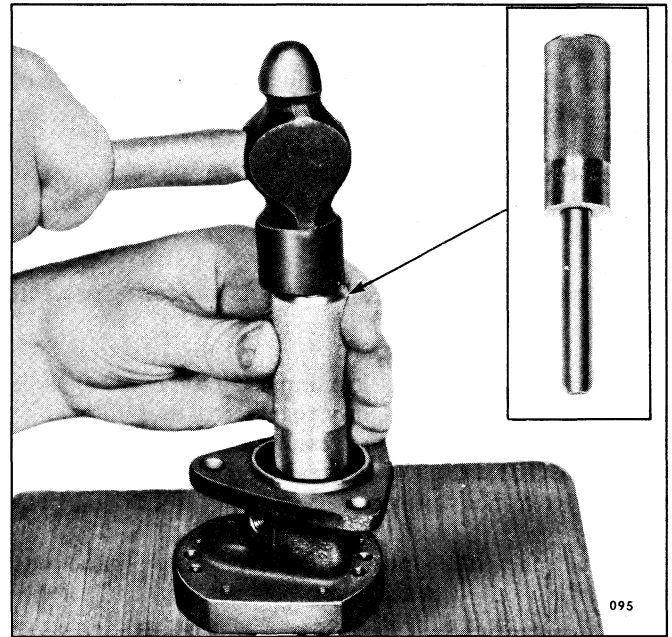

Fig. 10 - Installing Inner Oil Seal in Fuel Oil Pump Body with Tool J 1508-8
- b. With the pump body supported on wood blocks (Fig. 10), insert the pilot of the installer handle in the pump body so the seal starts straight into the pump flange. Then, drive the seal in until it bottoms.